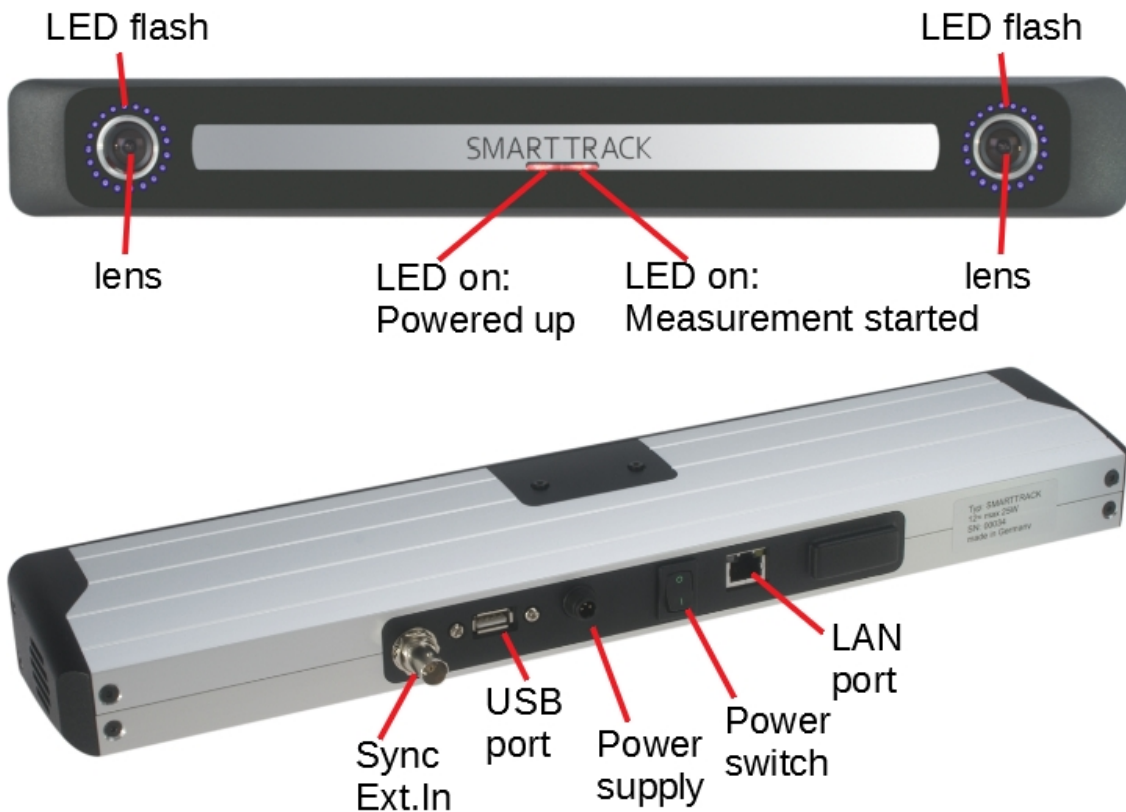

Figure 5.42: **SMARTTRACK2** - Front & Back view
**Ports & Plugs on the **SMARTTRACK2**** The following list gives a short overview of all ports accessible to the user. (see figure 5.42 on 104):